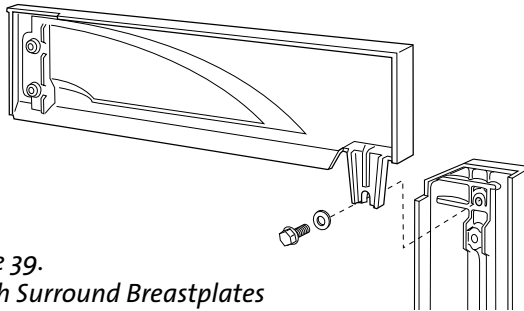

Figure 39.
2. Lay the four surround panels on the floor backside up. Using two bolts and washers attach the right and left upper sections (breastplates) together. See fig. 39.